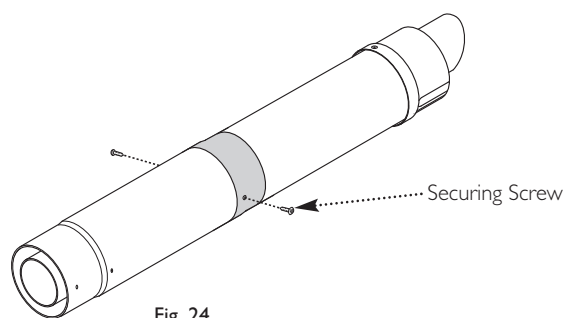

Fig. 24
9. Using the clearance holes in the Connection Assembly secure it to the Terminal Assembly using the screws supplied (Fig. 24).